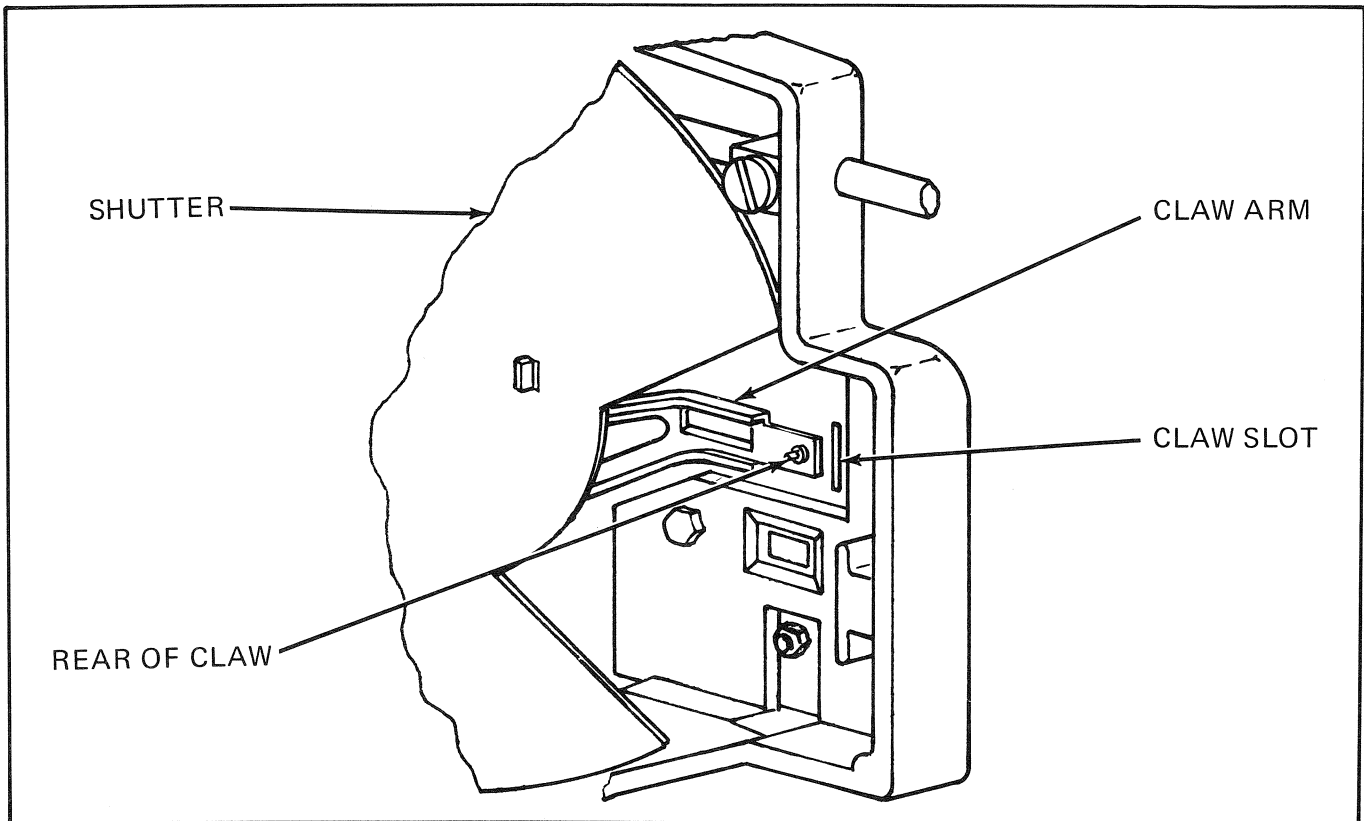

Fig. 4-4
3. Manually rotate the shutter 881-532 until the tip of the claw on the claw arm 881-689 is centered vertically in the slot on the plate 881-844. (See figure 4-4.)